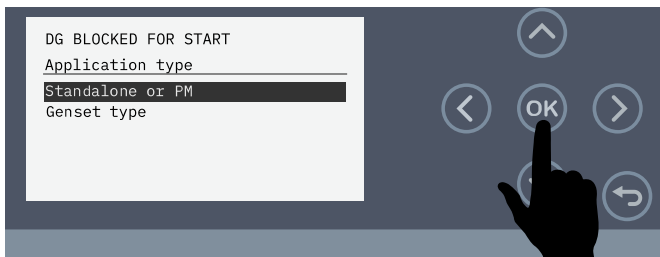

Figure 108. Select Standalone Or PM
5. Make sure **Standalone or PM** is highlighted (Figure 108), then press the OK button.